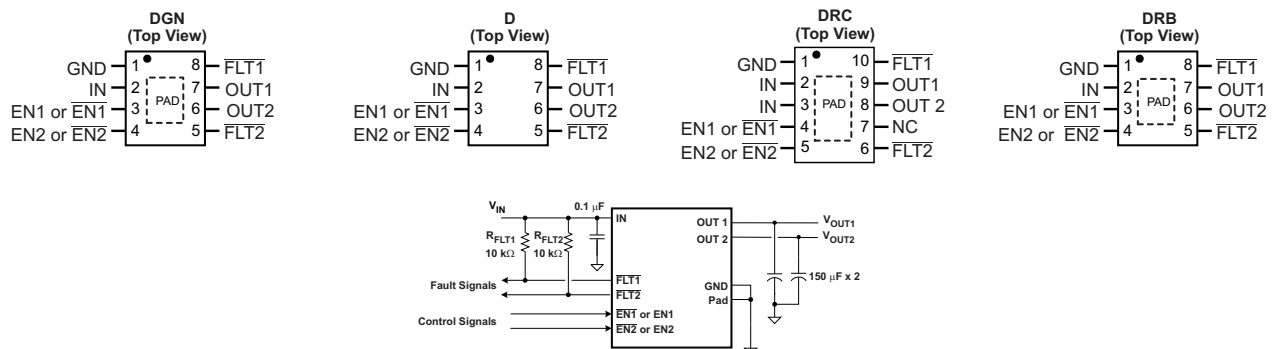

Figure 1. TYPICAL APPLICATION
- (1) Absolute maximum ratings apply over recommended junction temperature range.
(2) All voltages are with respect to GND unless otherwise noted.
(3) See INPUT AND OUTPUT CAPACITANCE section.
(4) V_{OUT} was surged on a PCB with input and output bypassing per Figure 1 (except input capacitor was 22 µF) with no device failure.